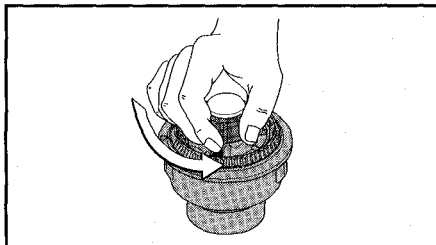

Fig. 24
1. If you need to remove the Bump Knob to clean the spool or to remove jammed/excess line, hold the outer spool, and unscrew the Bump Knob counterclockwise (Fig. 24).